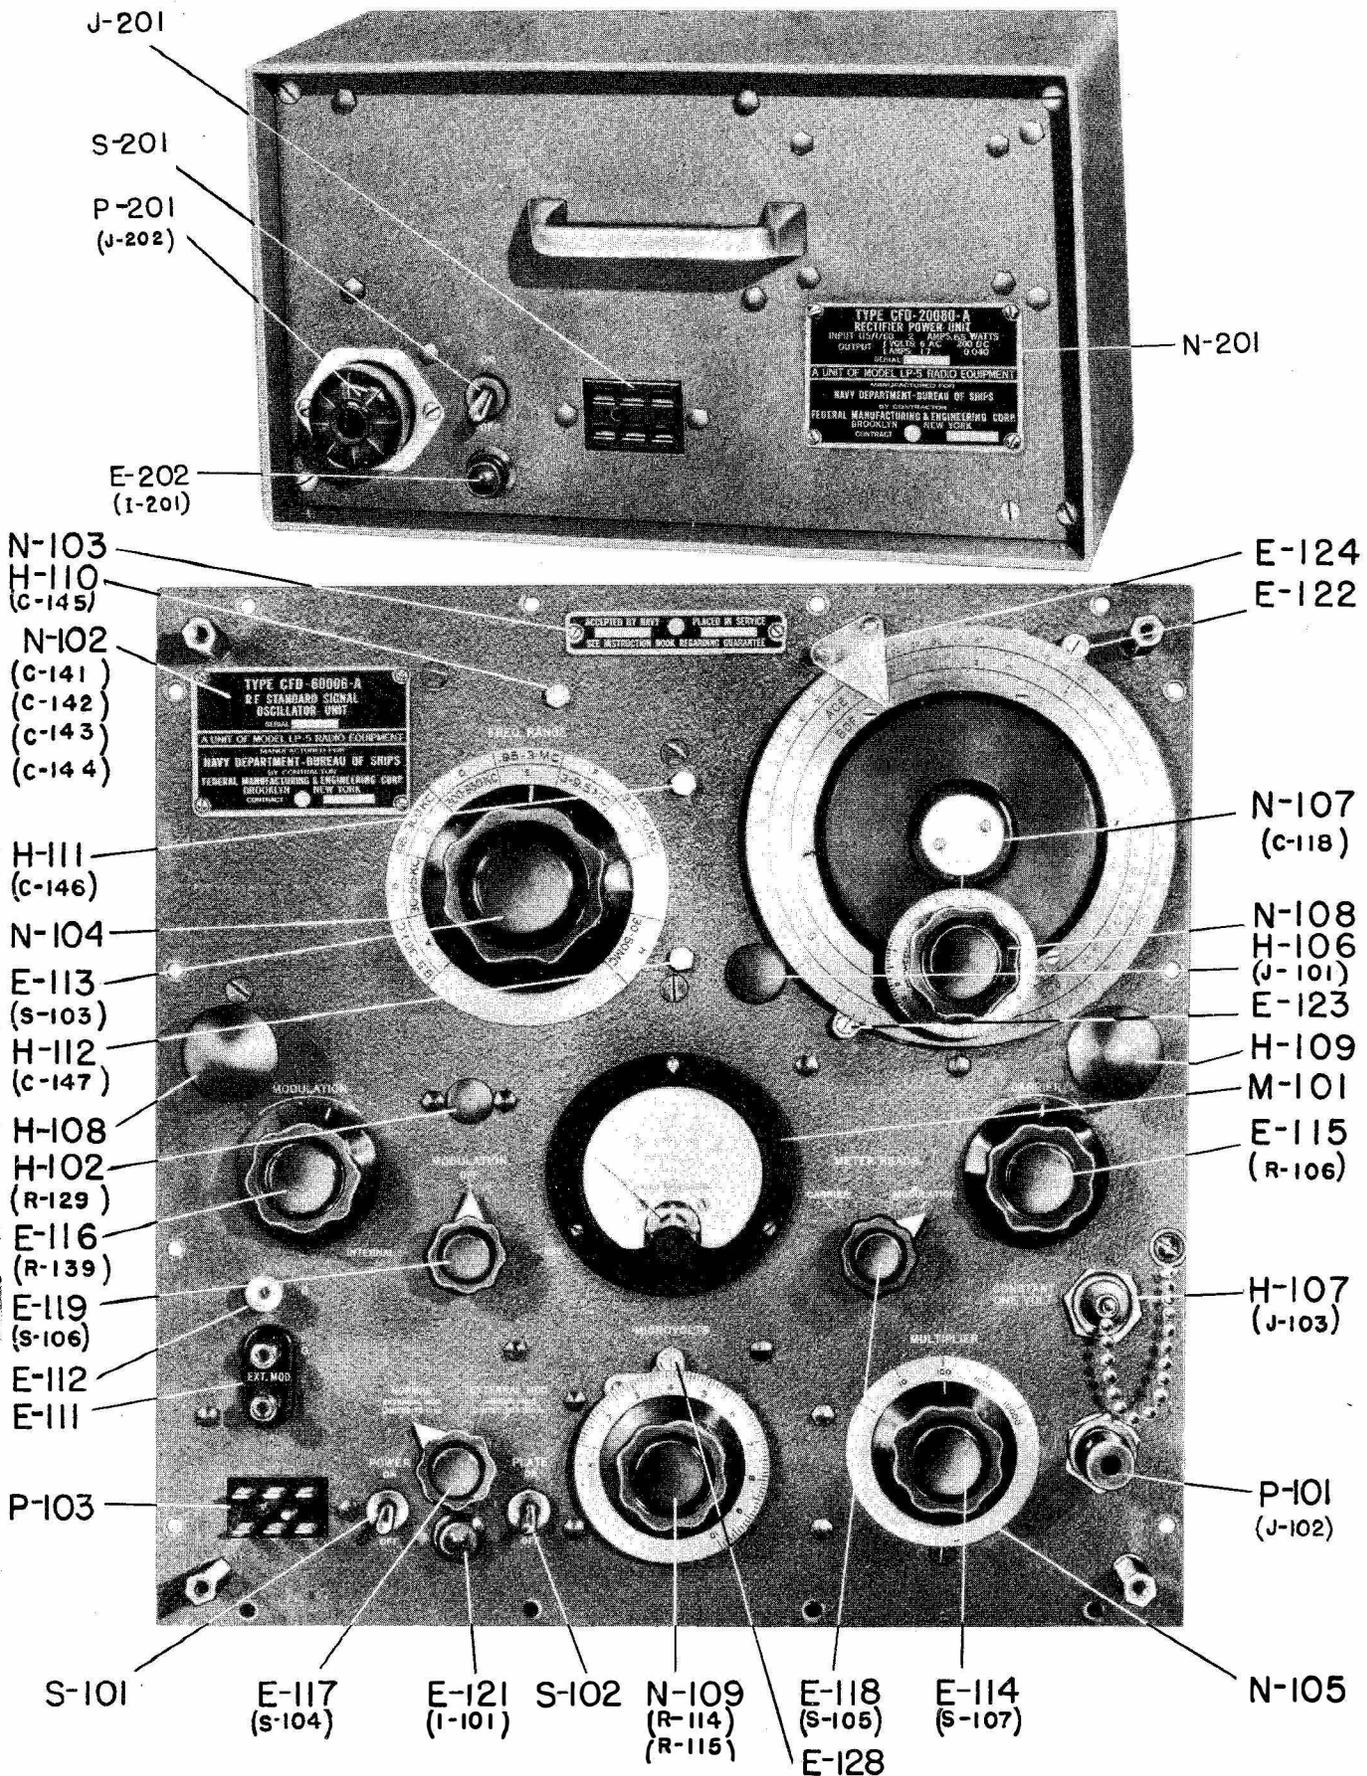

Figure 7-13—Panel Views of the Rectifier Power Unit (Top) and Signal Generator Unit Unit (Bottom)
b. To make the same QUICK REFERENCE DATA—ELECTRICAL PARTS available for use with any of the illustrations throughout the Instruction Book it appears again on the fold-in page showing Figure 7-13.
(For Use with Figure 7-13 Only—for Complete Parts List see Section VI)